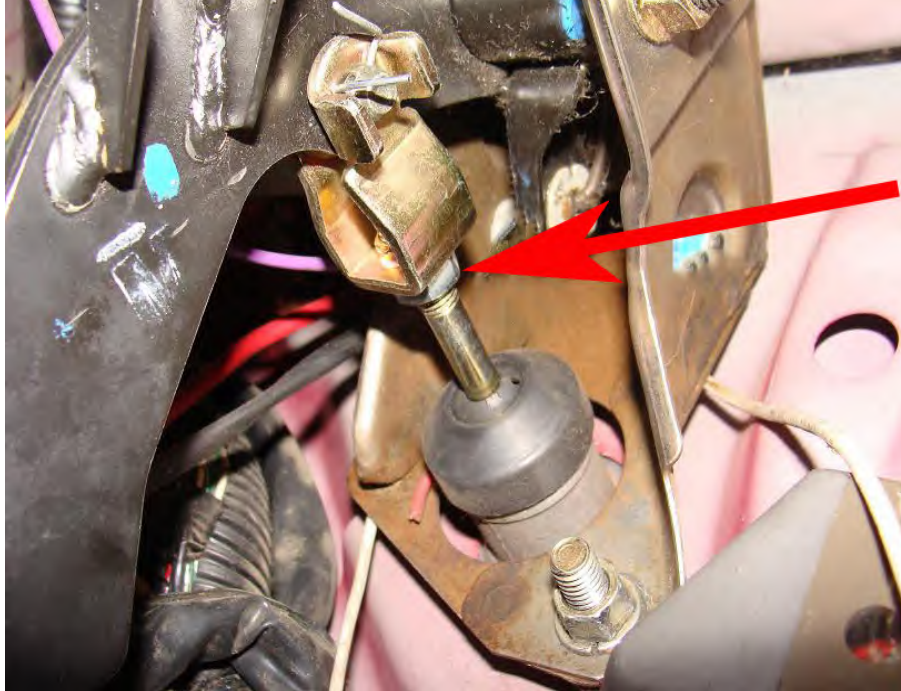

FIGURE 4
- Loosen the jam nut on the rod that goes into the master cylinder near the top of the clutch pedal and spin it out of the way (Figure 4). Turn the rod until the clutch pedal pad is at the desired position. Repeat the clutch pedal stop adjustment procedure (Step #12). If the pedal contacts the floorboard before the clutch releases, it needs to be adjusted higher and the pedal stop reset. Once certain that both the pedal position and pedal stop are both adjusted correctly, tighten the jam nut on the master cylinder pushrod. If there is no pedal stop, start this procedure by lowering the pedal far enough that clutch release does not fully occur. Adjust the pushrod in 1/2 turn increments to raise the pedal until full release is attained with the pedal at the floor. Add one more 1/2 turn and tighten the jam nut.